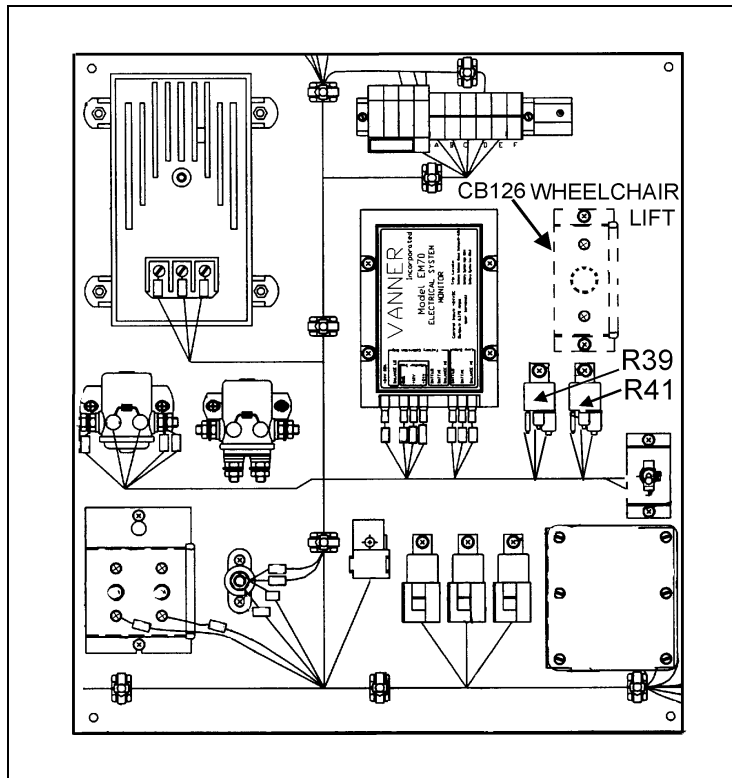

FIGURE 2: LOCATION OF RELAYS
2. Locate relay R39 and R41, refer to figure 2 to ease identification of relay R39 and R41.